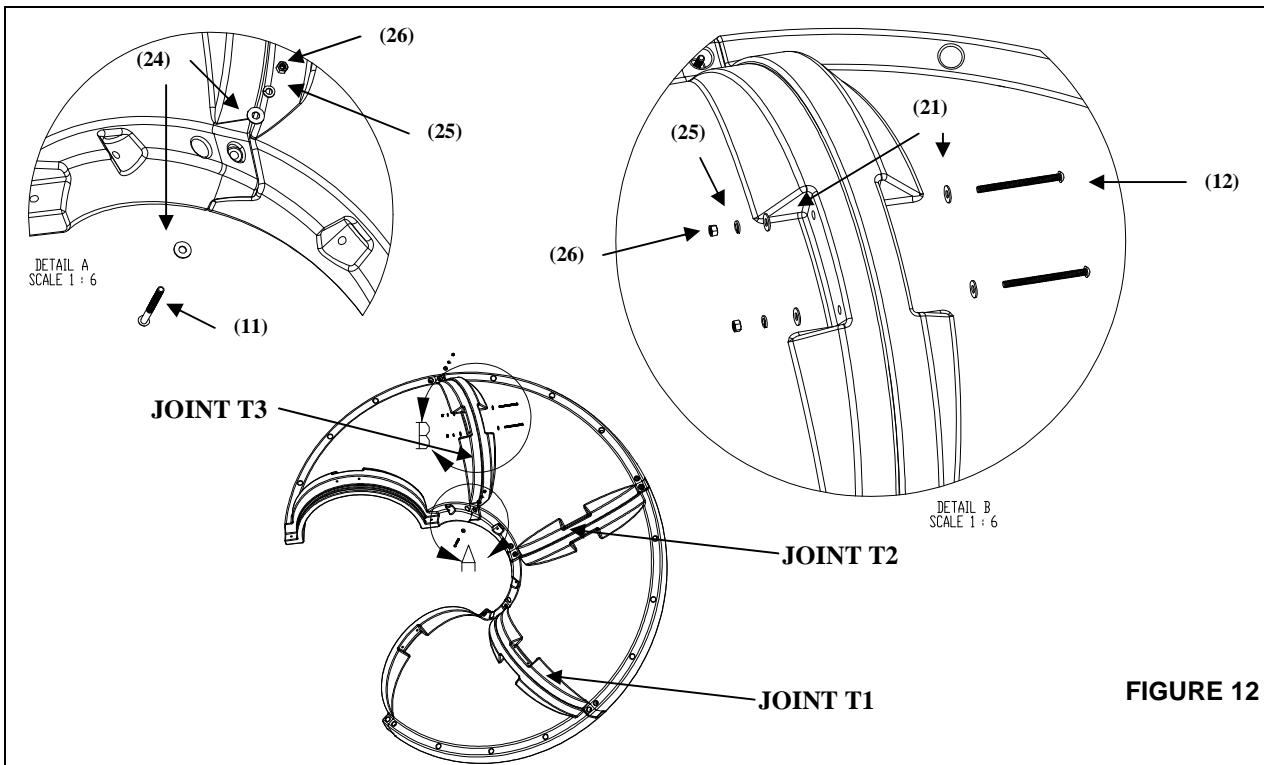

FIGURE 12
9) Assemble the four remaining Runway Section (2) pieces. **Order of assembly is important.** The end of each runway section is labeled and must be assembled to the runway section with the same number. Assemble two sections together that are labeled T1 on the mating ends. Fasten the two sections together using the two bolt locations through the side of the parts as shown in Figure 12, Detail A. The hardware required for the two side locations is as follows: 3/8"-16 x 4" Button Head Cap Screw S/S (11), 3/8" Flat Washer S/S (24), 3/8" Flat Washer S/S (24), 3/8" Lock Washer S/S (25), 3/8" Hex Nut S/S (26). Next, finish fastening the parts together as shown in Figure 12, Detail B. The hardware required for this step is as follows: 3/8"-16 x 5" Button Head Cap Screw (12) and a 3/8" Flat Washer S/S (21), 3/8" Flat Washer (21), 3/8" Lock Washer (25), 3/8" Hex Nut (26).